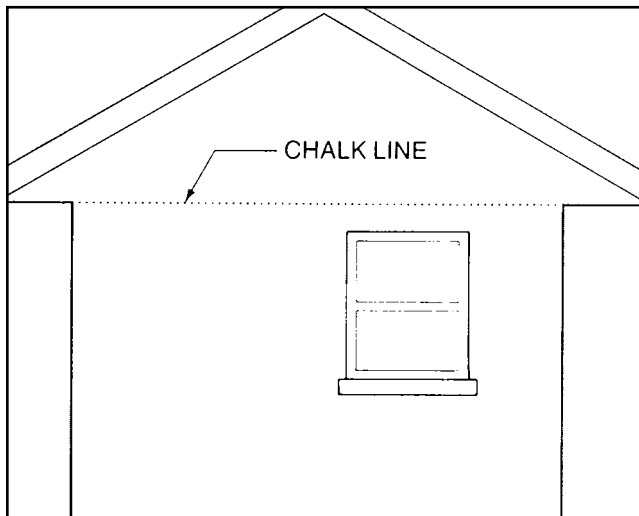
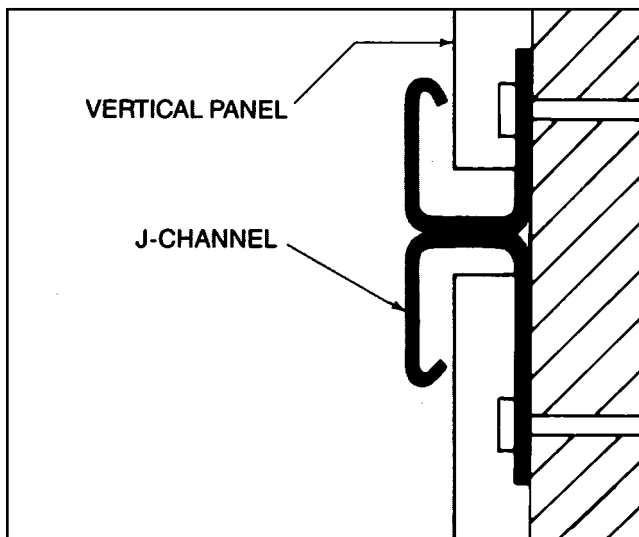

Fig 7.6
Fig 7.7
- C. At gable ends or any other area where more than one course of siding is required to span the height of the house, snap a level chalk line at the appropriate height (Fig. 7.6) and install back-to-back J-Channels (Fig. 7.7). Be certain to leave 1/4" for expansion at the top and bottom of each siding panel within the channels
Complete the last course of horizontal siding with 1/2" J-Channel back-to-back (fig. 7.7) for the installation of the vertical siding.